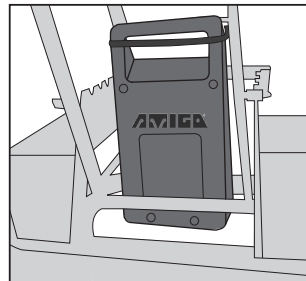

Figure 5.1
- a. A spare battery pack is easily stored under the seat with retainer cord. If you are storing a spare battery, lift retainer cord up and over the top of the battery to release. Remove battery from storage area before folding (Figure 5.1).
4. Reposition spare battery pack by placing under seat. Lift retainer cord up and over the top of the battery to hold in place (Figure 5.1).